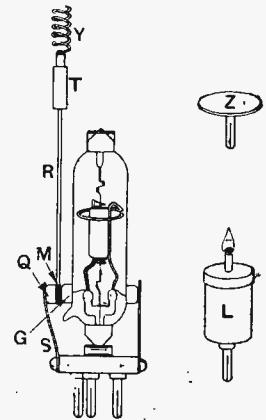
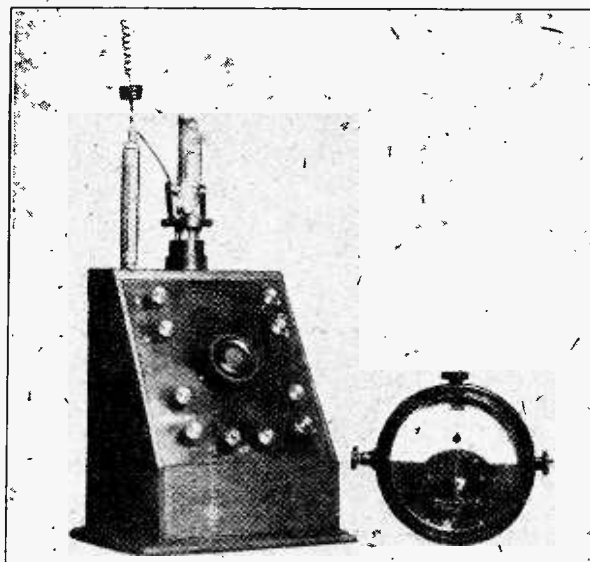

Fig. 3.—Adaptor for use with the valve electroscopie. The metal disc Z, or the methylated spirit lamp L, may be substituted for the radium spiral.
Fig. 2.—General view of instrument. The radium-coated spiral is supported on an insulated pillar to give additional strength.
Fig. 2 is a photograph of the instrument when used as an electroscopie.
Special adaptors are obtainable for plugging into an ordinary valve holder, to carry this type of valve. Such an adaptor can be seen in Fig. 3 and in the photograph in Fig. 2.
Fig. 3 illustrates a QX valve in its adaptor. When the arrangement is to be employed as an electroscopie, the grid contact spring S is separated from the grid terminal of the valve by means of a sulphur insulator on the
Provided the radium spiral Y, or the plate Z, are sufficiently lightly constructed, the grip between the spring S and the grid terminal of the valve provides sufficient support. In the instruments shown in the photograph in Fig. 2 an extra support is provided by means of a wooden rod capped by a second sulphur insulator.
(4) In the place of radium spirals the flame of a small methylated spirit lamp, L, as illustrated in Fig. 3, can be employed to ionise the atmosphere.